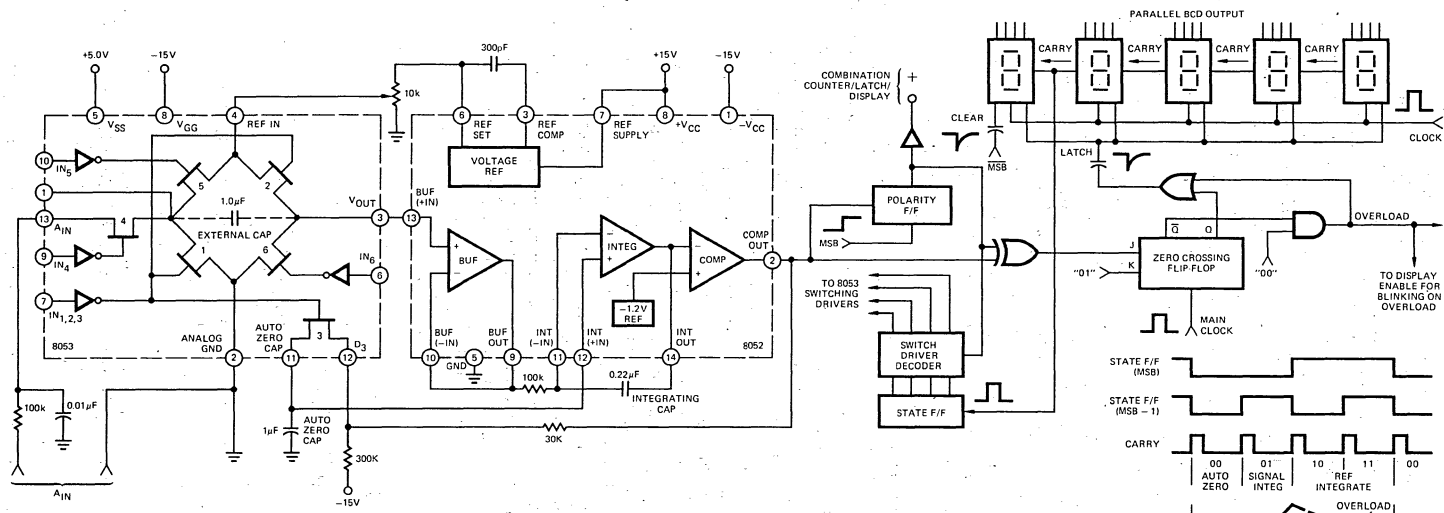

FIGURE 4. FUNCTIONAL DIAGRAM FOR A/D CONVERTER.
Figure 4 shows a function diagram for an A-D converter using the 8052/8053 pair. In this circuit, each measurement cycle is divided into four equal parts by the state F/F. The first part, state 00, is the auto-zero cycle. The switch driver decoder recognizes this state and turns on hex switches number 1, 2, and 3. Switches 1 and 2 impress a voltage equal to V_{REF} across the reference capacitor. Switch 3 closes a loop around the integrator and comparator. The purpose of this loop is to charge up the auto-zero capacitor until the integrator output does not change with time. During the second state, 01, switches 1, 2 and 3 are opened and switch 4 is closed. If the input voltage is zero, the buffer, integrator and comparator will see the same voltages that existed in the previous state. Thus, the integrator output will not change but will remain stationary during the entire signal-integrate cycle. If V_{IN} is not equal to zero, an unbalanced condition exists compared to the auto-zero cycle and the integrator will generate a ramp whose slope is proportional to V_{IN} . At the end of this cycle, the sign of the ramp is latched into the polarity F/F. The final cycle, reference integrate, includes states 10 and 11. The switch driver decoder uses the output of the polarity F/F in deciding whether to close switch 5 or 6. If the input signal was positive, switch 6 is closed and a voltage which is V_{REF} more, negative than during auto-zero is impressed on the buffer input. If the input signal was negative switch 5 is closed and a voltage which is V_{REF} more positive than during auto-zero is impressed on the buffer input. Thus, the reference capacitor generates the equivalent of a (+) reference or a (-) reference from the single reference voltage with negligible error. The reference voltage returns the output of the integrator to zero. The time, or number of counts, required to do this is proportional to the input voltage. Since the reference cycle can be twice as long as the signal integrate cycle, the input voltage required to give a full scale reading $\cong 2 V_{REF}$. The circuit, as described to this point, is not new to this application. It has been used successfully for several years. However, this system makes three major contributions to the accuracy of this circuit. These are: (1) low charge injection, (2) junction FET op amp, and (3) zero-crossing flip-flop.